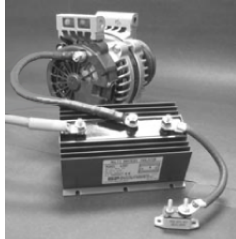

FIGURE 4
6. Mount a circuit breaker as near to the auxiliary battery as practical, and away from engine or exhaust heat (see application chart for proper size on page 1). Connect one end of a new wire of the proper size to the "2" terminal of the Isolator. Run the wire to the circuit breaker and connect it to the "AUX" terminal. Run another wire from the circuit breaker to the auxiliary battery, connecting one end to the "BAT" terminal of the circuit breaker and the other to the positive "+" terminal of the auxiliary battery. Repeat for three and four battery bank Isolators. See Figure 4.